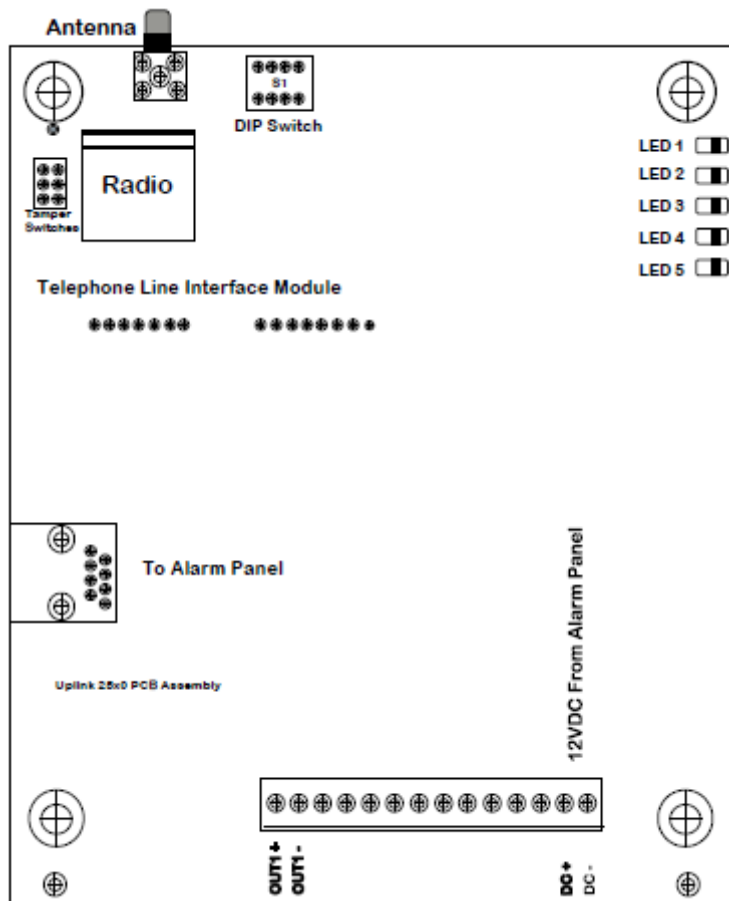

Figure 1: Model 2530 PC Board Details
3. Go to the red, 4-position Dipswitch as shown in Figure 1 and set the dipswitch as appropriate for this installation. (See Section 7B.)